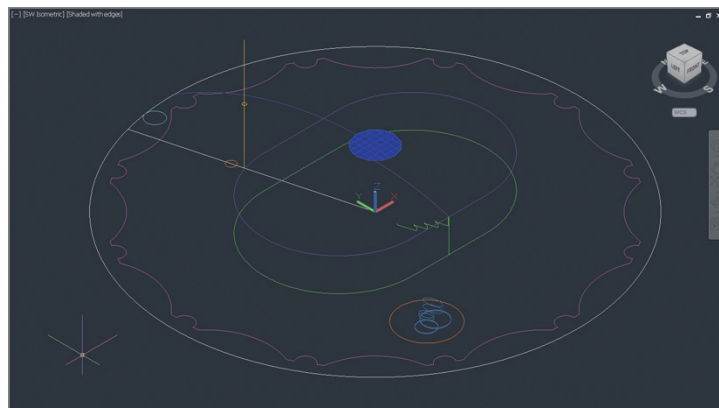

FIGURE 17.1 Creating a planar surface at the top of the dome
6. Click the SW corner of the ViewCube to move to a SW isometric view-point. The blue planar surface you just created is visible at the top of the dome (see Figure 17.1).